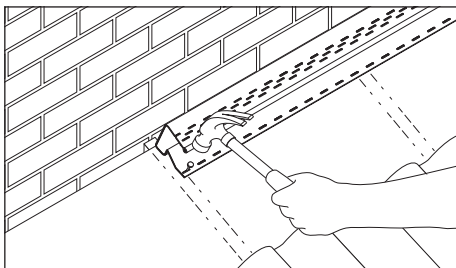

Fig. 2 – Fix batten section
- 3 Cut a small piece of lead support to use as a guide to setting out uPVC batten section. Lead support strip should coincide with a mortar joint above line of tiling and leave a gap not less than 5mm between batten section and wall (Fig. 2).